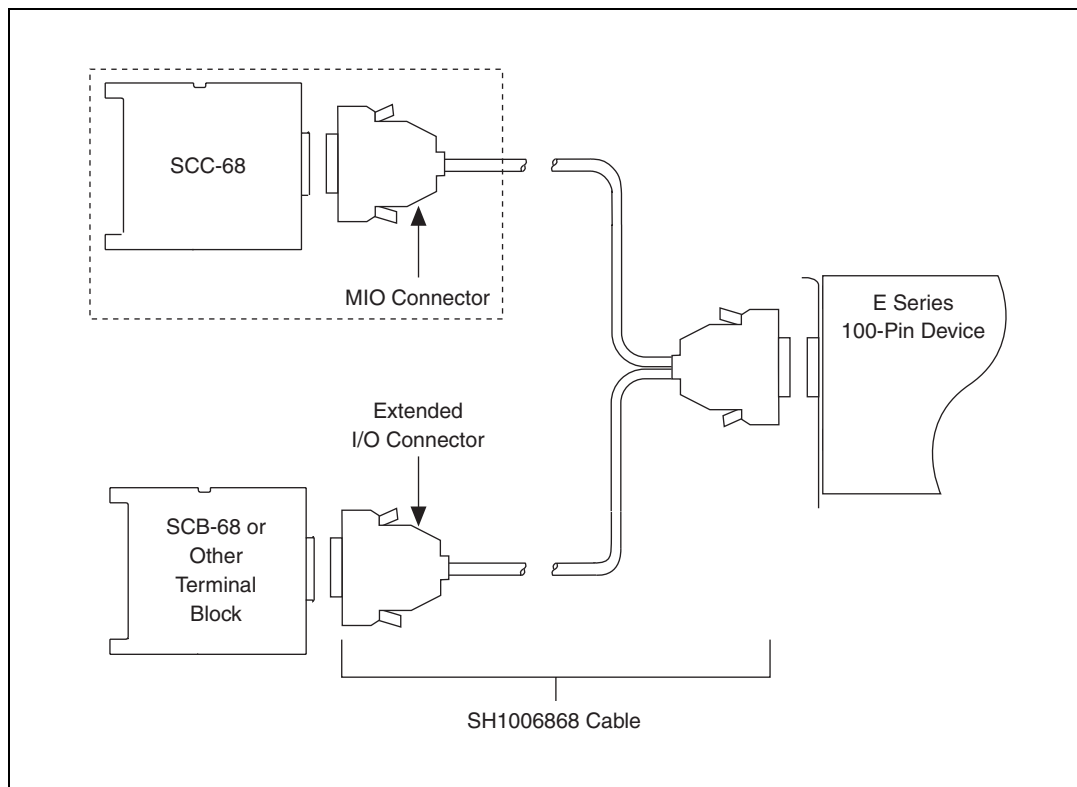

Figure 5. Connecting a 100-Pin DAQ Device to an SCC-68 Connector Block and Another Terminal Block
1. Attach the SCC-68 to the DAQ device using an SH1006868 cable. This cable has two 68-pin connectors labeled *MIO 16* and *Extended I/O*. Connect the *MIO 16* connector to the SCC-68. Refer to Figure 5.